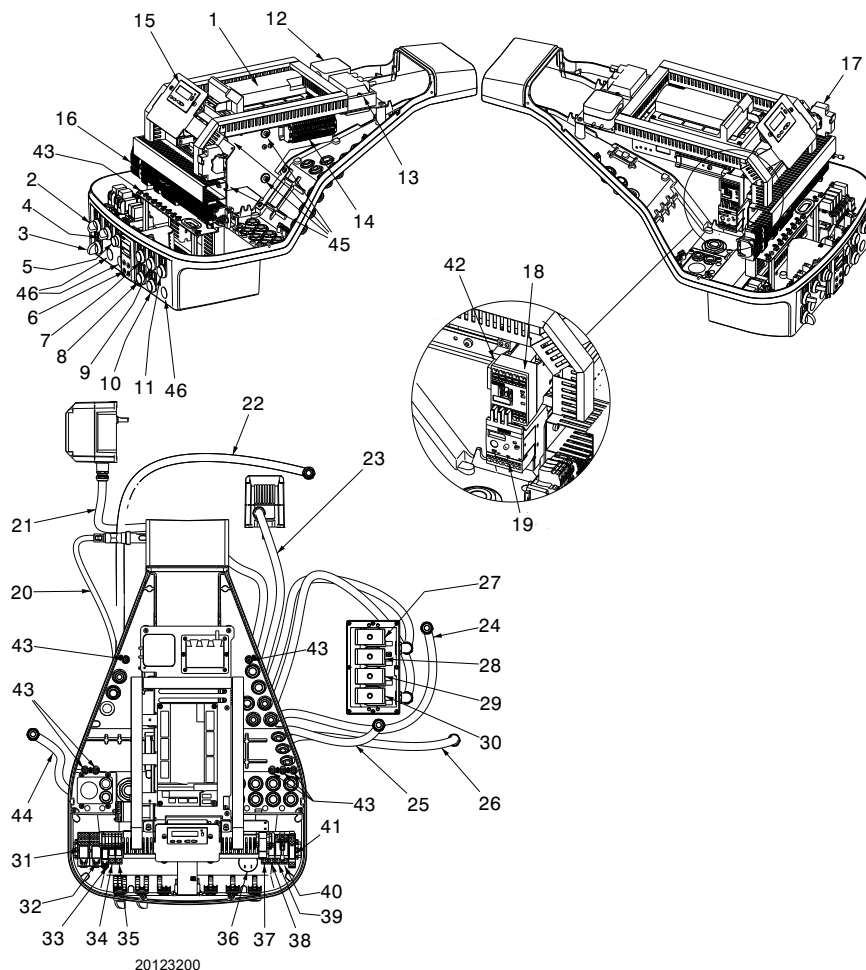

Fig. 4
- 26 Valve group (see Fig. 4 on page 12)
If the flame safeguard alarm 6)(Fig. 4) lights up, it indicates that the burner is in lock-out. To reset, press the reset pushbutton.
Release by pressing the push-button on thermal overload 19)(Fig. 4). See "Thermal relay calibration" on page 35